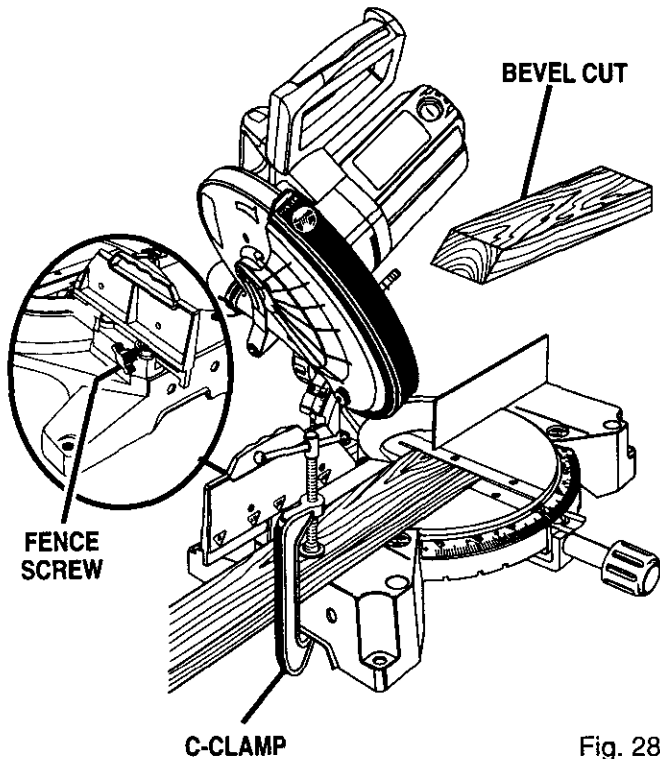

Fig. 28
- Adjustments of the miter fence must be made to correspond to the desired angle of the bevel cut **prior to tilting the saw arm**. The fence is marked for 15°, 30°, or 45°. Loosen the fence screw on the miter fence, slide the fence to the desired position, and retighten the fence screw. *See Figure 28.*
- Grasp the stock firmly with one hand and secure it against the fence. Use the work clamp or a C-clamp to secure the workpiece when possible. *See Figure 28.*
- Slowly lower the blade into and through the workpiece. *See Figure 28.*
- Adjustments of the miter fence must be made to correspond to the desired angle of the bevel cut **prior to tilting the saw arm**. The fence is marked for 15°, 30°, or 45°. Loosen the fence screw on the miter fence, slide the fence to the desired position, and retighten the fence screw. *See Figures 28 and 29.*